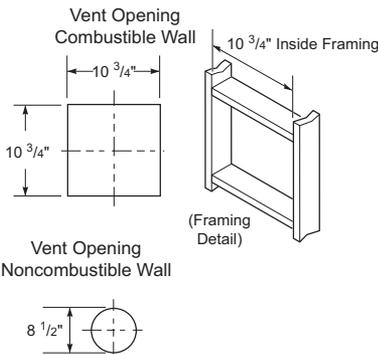

Figure 15 - Vent Opening Requirements
3. Attach vent pipe assembly to the fireplace using twist lock connections. Set fireplace in front of its permanent location to insure minimum clearances. Mark the wall for a 10 3/4" square hole (for noncombustible material such as masonry block or concrete, a 8 1/2" diameter hole is acceptable). See Figure 15. The center of the hole should line up with the centerline of the rigid vent pipe. Cut a 10 3/4" x 10 3/4" square hole through combustible exterior wall (8 1/2" diameter hole if noncombustible). Frame as necessary.
3. Cut a hole in the roof using the locating hole as a center point. (Cover any exposed open vent pipes before cutting hole in roof.) The $10 \frac{3}{4}'' \times 10 \frac{3}{4}''$ hole must be measured on the horizontal; actual length may be larger depending on the pitch of the roof. There must be a 1" clearance from the vent pipe to combustible materials. Frame the opening as shown in Figure 15 on page 13.